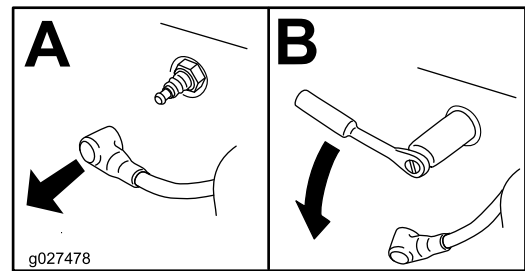

Figure 43
4. Remove the spark plug (Figure 43).